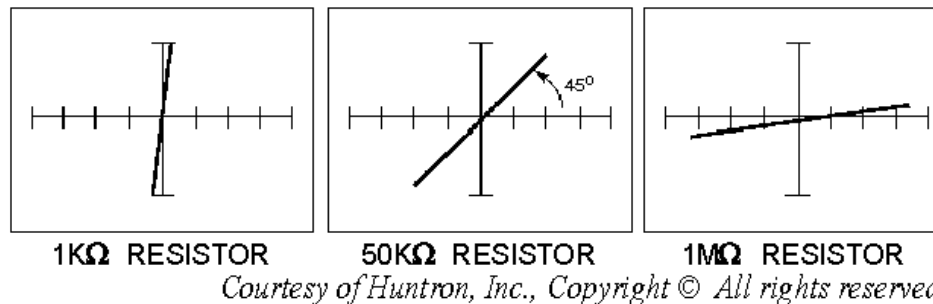

Figure 5-33.—Effects of resistance on the rotation angle in high range.
**HIGH RANGE.**—The high range is designed to test resistance values between 3K $\Omega$  and 1M $\Omega$ . Figure 5-33 shows the signatures that would be displayed for a 3K $\Omega$  resistor, a 50K $\Omega$  resistor, and a 1M $\Omega$  resistor using the high range. Resistors that are smaller than 3K $\Omega$  will appear to be almost a vertical line. A 50K $\Omega$  resistor will cause a change in the angle of rotation of 45°, whereas the display for a 1M $\Omega$  resistor shows only a slight rotation that is very close to a horizontal line. Resistance values higher than 1M $\Omega$  will produce such a small rotation that it appears to be a horizontal line.